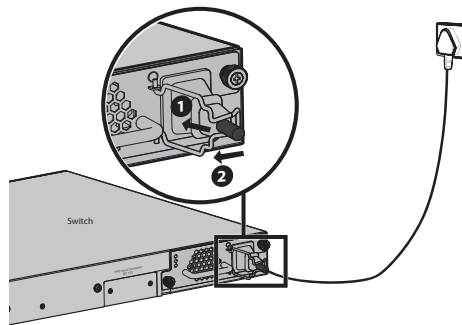

Figure 5-4 Power on via PSM150-AC
2. Plug one end of the power cord to the power socket of the power supply module, as the arrow ① in Figure 5-4 shown.
3. Pull the lock hook to the left to lock the power cord, as the arrow ② in Figure 5-4 shown.